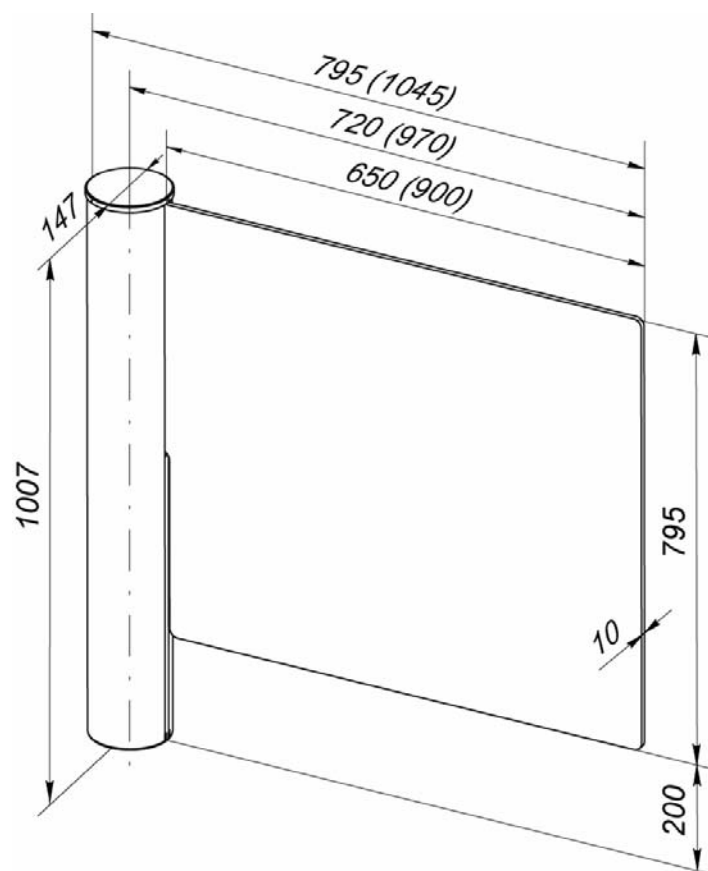

Figure 1. Overall dimensions
- The swing gate can be supplied with two types of swing panel: 650 mm or 900 mm. Overall dimensions of the gate are shown in Fig. 1.